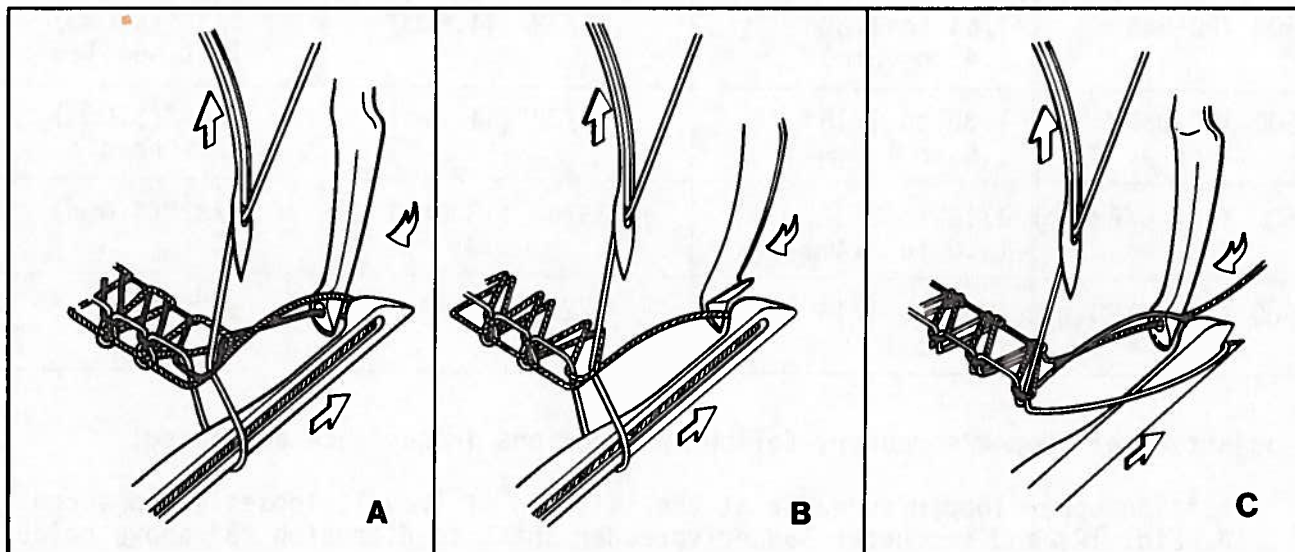

Fig. 10
looper (Fig. 10). Point of upper looper or thread pick up on a spreader must pass the notch in head of lower looper with minimum clearance. Upper looper should pass under the lower looper thread (A, Fig. 10) and a spreader must pick up lower looper thread with lower point (B). On Style 39500 XRN, CXRN, the upper looper should pass under the lower spreader thread (C).
3. Rotate handwheel in operating direction bringing the upper looper/spreader into the LOWER looper. The POINT of upper looper or THREAD PICK-UP of upper spreader should be set to enter the notched area behind the head of the lower looper, See Fig. 10.